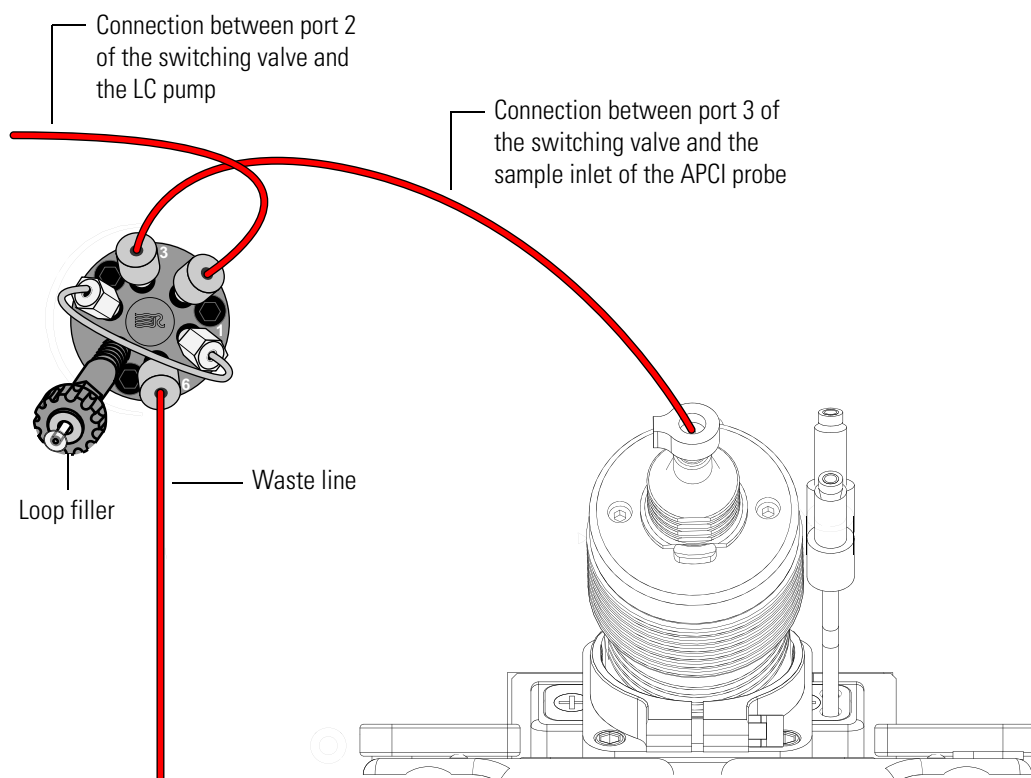

Figure 5-17. Plumbing diagram for loop injection into the solvent flow from an LC into an APCI probe
- For the APCI probe, use two fingertight fittings and two ferrules to connect a length of red PEEK™ tubing between port 3 of the switching valve and the sample inlet of the APCI probe. See Figure 5-17.